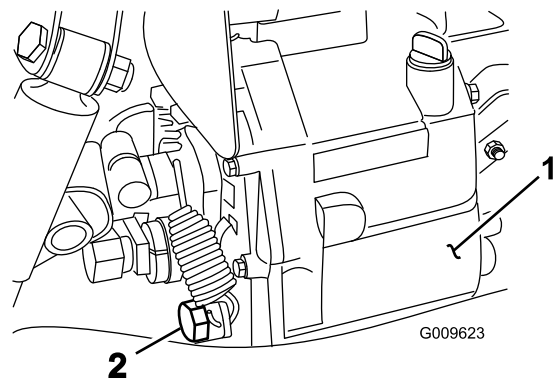

Figure 68
2. Remove the drain plug from the side of the reservoir and let the hydraulic fluid flow into a drain pan (Figure 68).